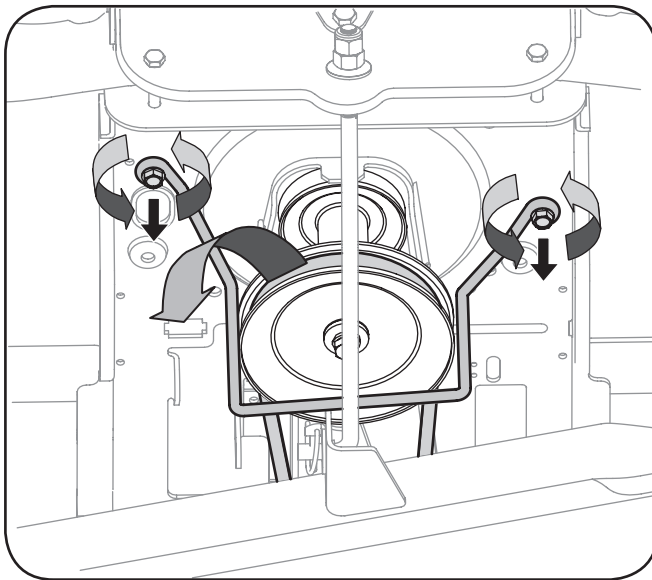

Figure 7-1
3. Removing the self-tapping screw (A) that secures the belt-keeper rod from around the tractor's engine pulley, then remove the belt keeper rod (B). See Fig. 7-1.
4. Remove the belt (C) from around the tractor's engine pulley. See Fig. 7-1.